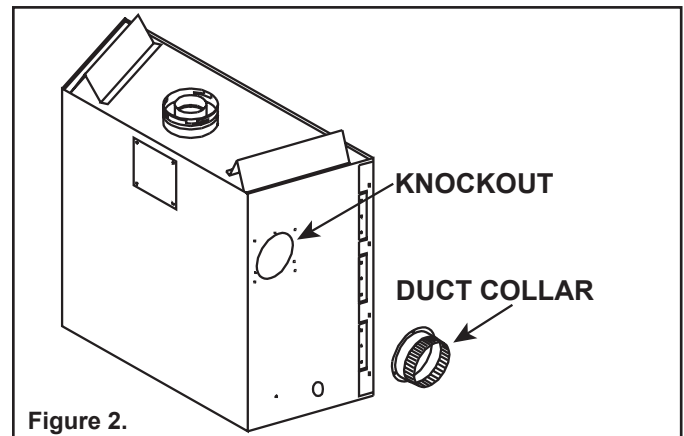

Figure 2.
1. Remove the knockout or cover plate from the side or top of the appliance and discard it. See Figure 2.